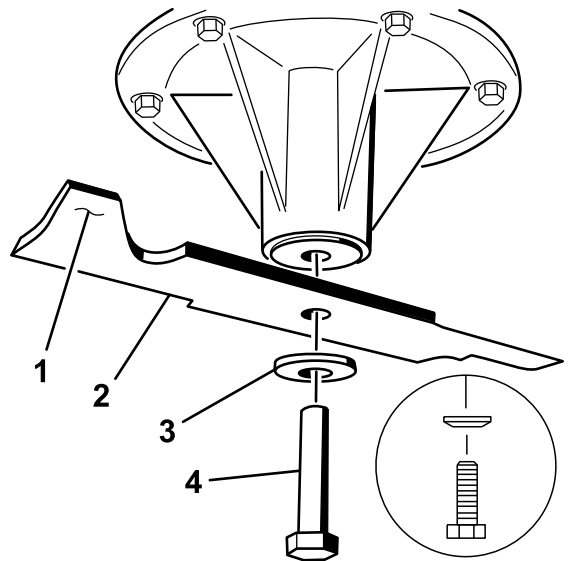
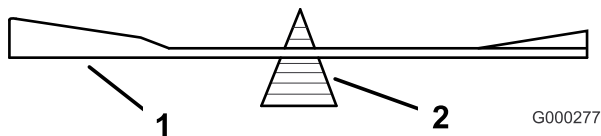

Figure 96
Figure 98
2. Remove the blade bolt, curved washer, and blade from the spindle shaft (Figure 96).
2. Check the balance of the blade by putting it on a blade balancer (Figure 98). If the blade stays in a horizontal position, the blade is balanced and can be used. If the blade is not balanced, file some metal off the end of the sail area only (Figure 96). Repeat this procedure until the blade is balanced.